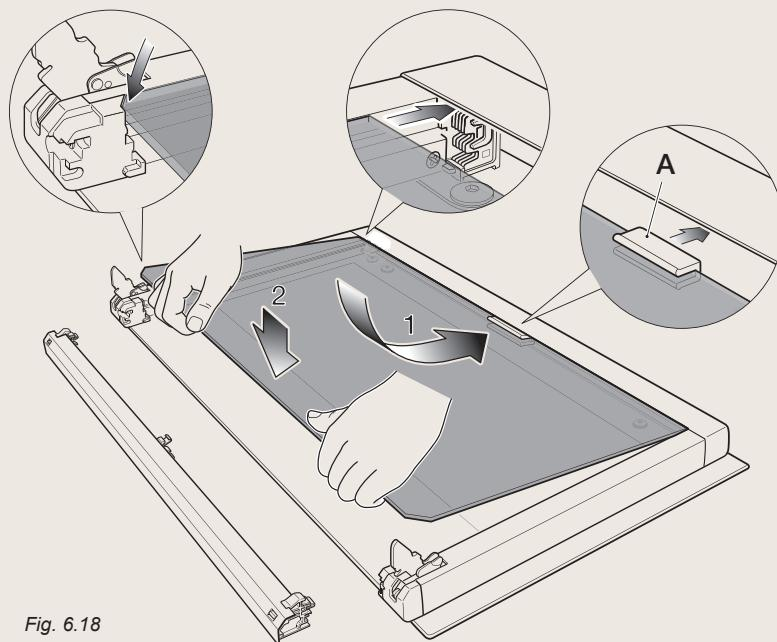

Fig. 6.18
- \* Check that the gasket "A" is in place (fig. 6.18). If not, correctly place the gasket in the top edge of the inner glass (in the centre).
1. Insert the inner glass pane in the uppermost pair of grooves and push it slightly (arrow 1 in figure 6.18).
2. Gently lower into place (arrow 2 in figure 6.18).